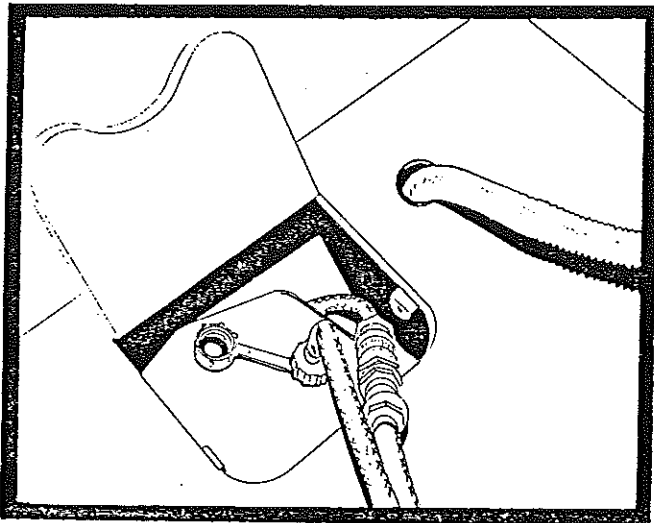

FIGURE 21
31. Lift one end of the sink module high enough to allow the utility lines to be connected, then lower the unit to the cabinet top. (It is supported by four legs.) See Figures 21 and 22.
45. Lift one end of the sink module high enough to disconnect the utility hookups (drain line and water lines). This can be done by lifting the hatch door mounted in the lower cabinet top to expose the connections. See Figure 21.
19. Lift one end of the sink module high enough to disconnect the utility lines. See Figures 21 and 22.